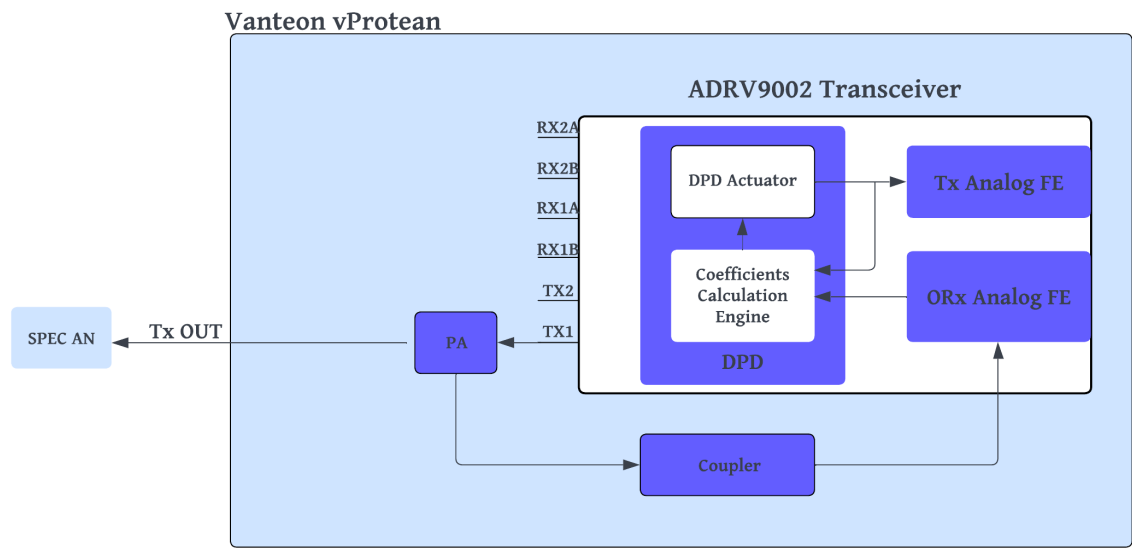

Figure 2. Top Level View of DPD on vProtean
Figure 2 shows a top-level view of the DPD data path on the vProtean SDR. The ADRV9002 RF Transceiver utilized on the vProtean handles the signal processing needed to linearize the signal. The ADRV9002 requires the transmit signal (Tx OUT) to be fed back into the device in order to characterize the distortion. The path between the output and the observation port is essential. Vanteon takes an integrated approach to this requirement using an on-board loopback path to feed the attenuated transmit signal to the observation receive channel.
The user interface (UI) for the vProtean includes a setting for DPD in the provided firmware. The menu gives the user access to the DPD actuator and Model Tap Polynomial Terms, similar to the Analog Devices TES GUI. The DPD actuator referenced in Figure 2 is dependent on the results from the coefficients calculation engine. The DPD actuator’s state determines whether the transmitted signal will have the inverse PA model applied to it. The Model Tap Polynomial Terms, on the other hand, allow the user to “curve fit” the nonlinearity effects of the output signal. The polynomial terms for each tap are entered as 8-bit hexadecimal values on the UI for the transceiver to interpret them as the MSB (Most Significant Bit) representing polynomial terms [4...7] and LSB (Least Significant Bit) regarded as terms [0...3]. For suggested tap values refer to Table 83 in reference [2].